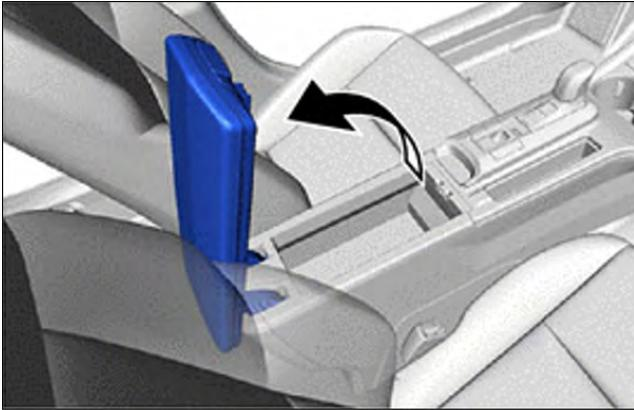

Figure 16
- (a) Open the upper console panel, as shown in Figure 16.